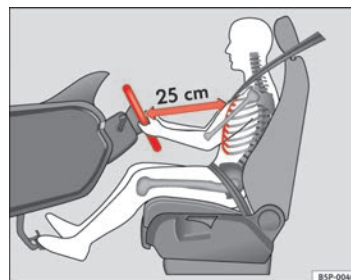

Fig. 135 Proper sitting position for driver
- Adjust the steering wheel in this way until the correct position is set ⇒ fig. 135.
- Adjust the driver seat or steering wheel so that there is a distance of at least 25 cm between the steering wheel and your chest ⇒ page 167, fig. 135. If you fail to observe the minimum distance, the airbag will not protect you. Risk of fatal injury.